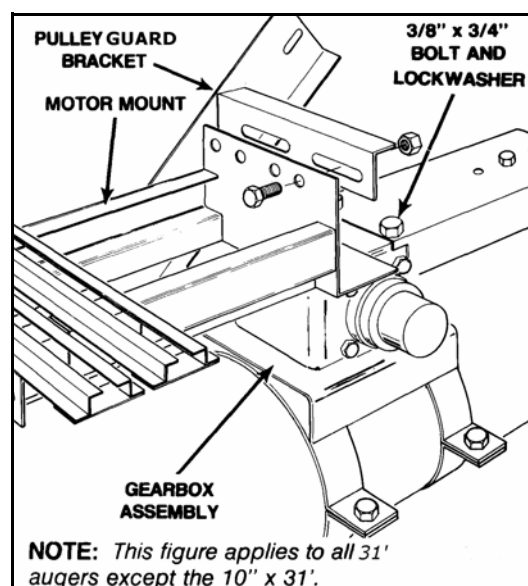

Figure 3.32
See Figure 3.32 and 3.33.
1. Attach electric motor mount to gearbox with bolts and lockwashers (see Figure 3.32 and Table 3.31. for horsepower requirements).